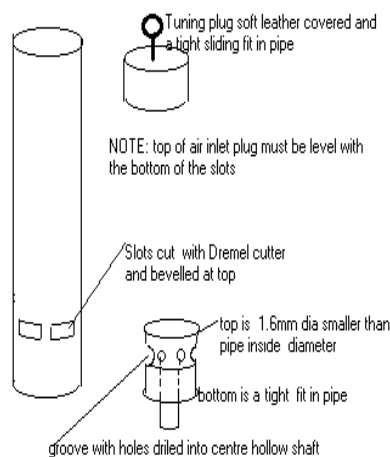

Fig 5
Metal pipes consist of six (6) parts: base tube, base plug, inlet pipe, saddles (or stand-offs), main pipe (which is the resonator) and tuning plug and is illustrated in photo 2. Plastic pipes have a one piece tube in which slots are cut and consist only of the tube, base or inlet plug, inlet pipe and tuning plug and is illustrated in fig 5.
In making either metal or plastic pipes you will need to make the base plugs and tuning plugs. I used fine grained Australian hardwood (Jarrah) but any dense timber which is fine grained and stable should do. Avoid softer woods as these will dehydrate and fall out of the pipe. The base plug should be a driving fit in the base of the pipe. It consists of the base, a semicircular section groove about 3/4 of the way up into which holes are drilled towards the centre, meeting a vertical hole from the base. This is the air way (or languid of organ pipes). The top of the plug is 1.6 mm (or 1/16th inch) smaller in diameter than the base to allow a circular stream of air to be directed against the bevelled lip of the main tube (see illustration, fig 5). This 1.6 mm difference is consistent throughout the range of pipes.. This results in about 0.8 mm (or 1/32nd inch) gap all the way around. This is very small and requires a measure of precision in manufacture, and in reality, requires a lathe. An alternative plug could be made from 3 flat disks separated by spacers, either metal or perspex or somesuch, the top disk being 1.6 mm smaller diameter than the other two.(see fig 6.) Tip: to fit the base plug so that the gap is even all around the inside of the pipe, use a gear puller. First fit the base plug just in the pipe, square it up then fit the claws in the slots (see below) or over the top part of the base pipe and fit a small piece of metal over the base hole for the tip of the advance screw and then simply screw it up until the top of the plug contacts the claws(fig 6a).